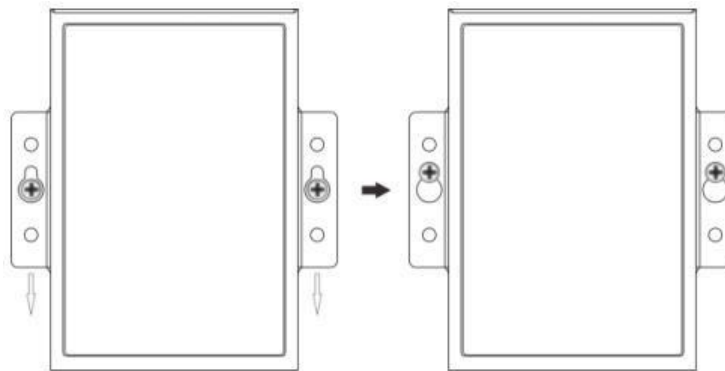

Fig.1 Wall mount installation
- Align the wall mount plate over the screws on the wall. Hang the device on two screws and slide it downward to lock in place, then tighten the screw to enhance stability, see the following Fig.1.